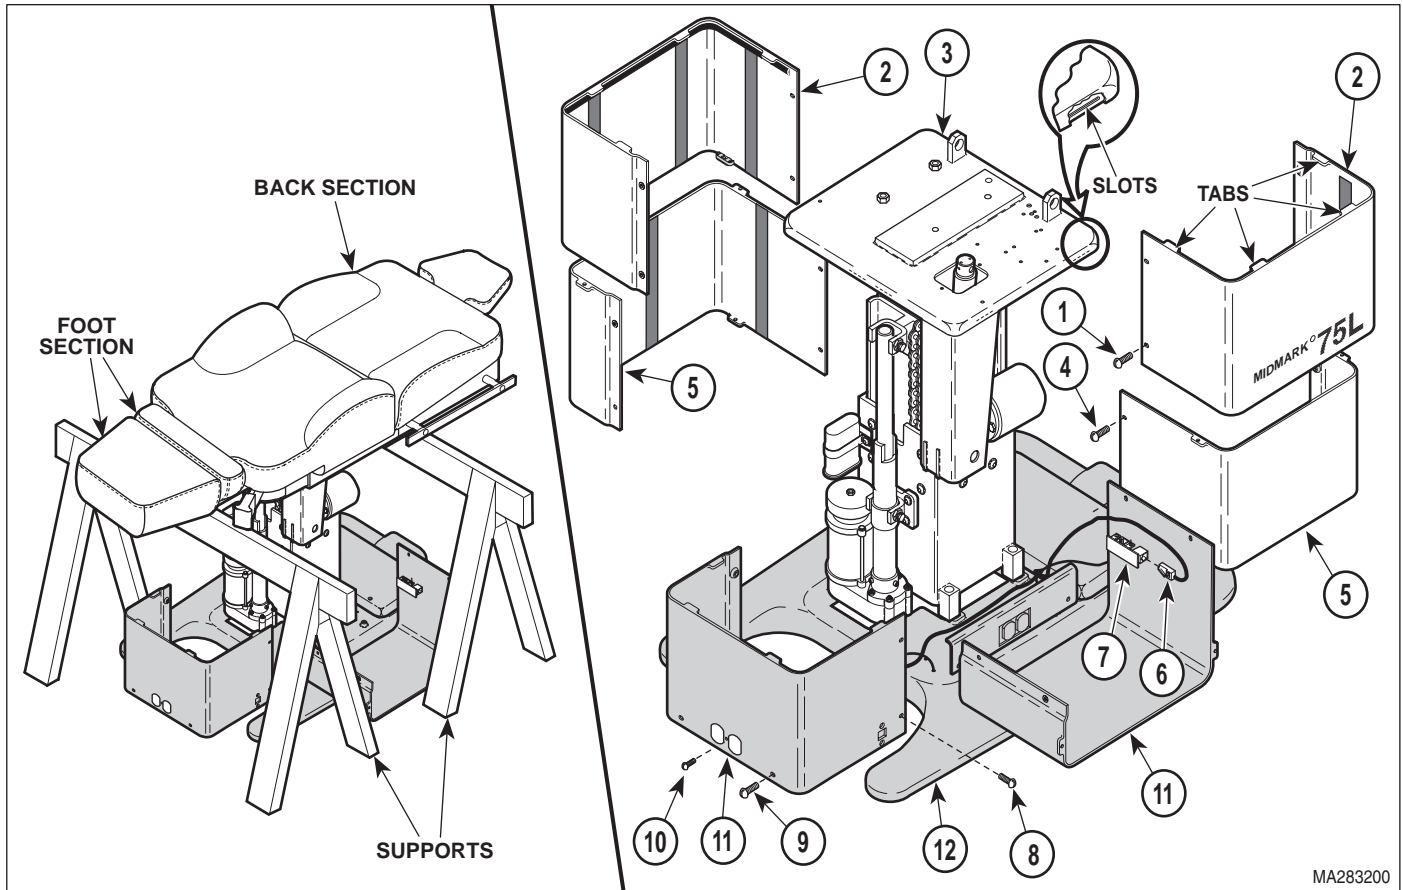

Figure 4-17. Column Assembly Access
- (3) Unplug table power cord from wall outlet.
- (4) Remove four screws (1, Figure 4-17) and R.H. and L.H. outer shrouds (2) from column adapter weldment (3).
- (6) Install base actuator (8) on column assembly (5) and secure with two pivot screws (10). Tighten pivot screws to 50 to 60 in-lbs (5.6 to 6.8 N•m).
- (7) Tighten two jam nuts (9) to 45 to 55 ft-lbs. (61 to 74.6 N•m).
- (8) Install base capacitor (4), capacitor bracket (3), and capacitor strap (2) on column assembly (5) and secure with screw (1).
- (9) Plug table power cord into wall outlet.
- (10) Plug modular cord (6, Figure 4-17) into port of inlet PC board (7).
- (22) Adjust base up limit switch (Refer to para 4.16).
- (23) Install R.H. and L.H. inner shrouds (11, Figure 4-17) on base casting (12) and secure with two screws (10), four screws (9), and four screws (8).
- (24) Assemble R.H. and L.H. middle shrouds (5) around inner shrouds (11) with four screws (4).
- (25) Install tabs of R.H. and L.H. outer shrouds (2) in slots column adapter weldment (3) and secure with four screws (1), making sure middle outer shroud assembly (5) is captured by R.H. and L.H. outer shrouds (2).